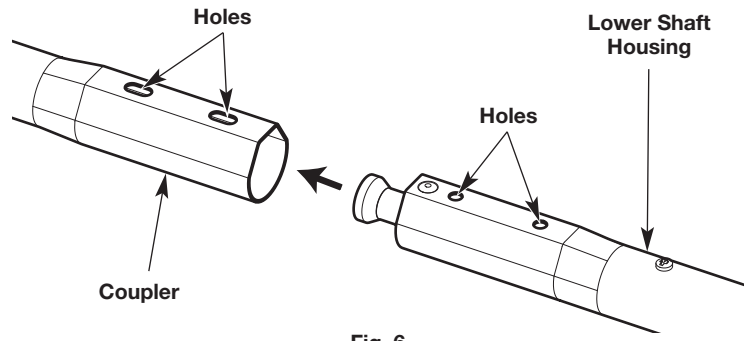
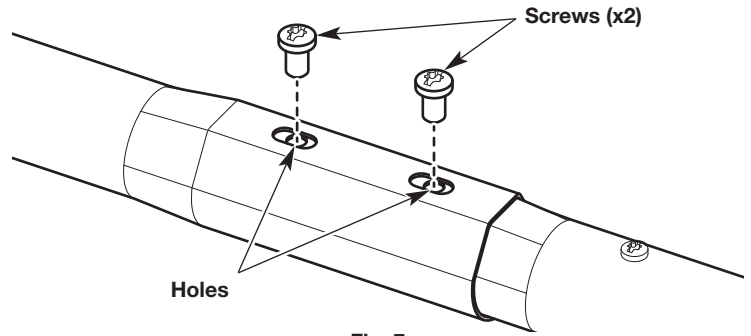

Fig. 6
Fig. 7
2. Turn the upper portion of the unit upside down. The holes on the coupler should face up (Fig. 6).
3. Turn the lower portion of the unit upside down. The holes on the lower shaft housing should face up (Fig. 6).
4. Push the lower shaft housing into the coupler (Fig. 6). The holes on the lower shaft housing should align with the holes on the coupler (Fig. 7).
5. Insert the screws (x2) into the aligned holes (Fig. 7).